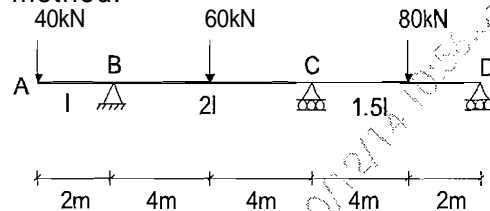

Fig. 7
7. Analyse the continuous beam shown in fig. 7 by displacement method. **20**